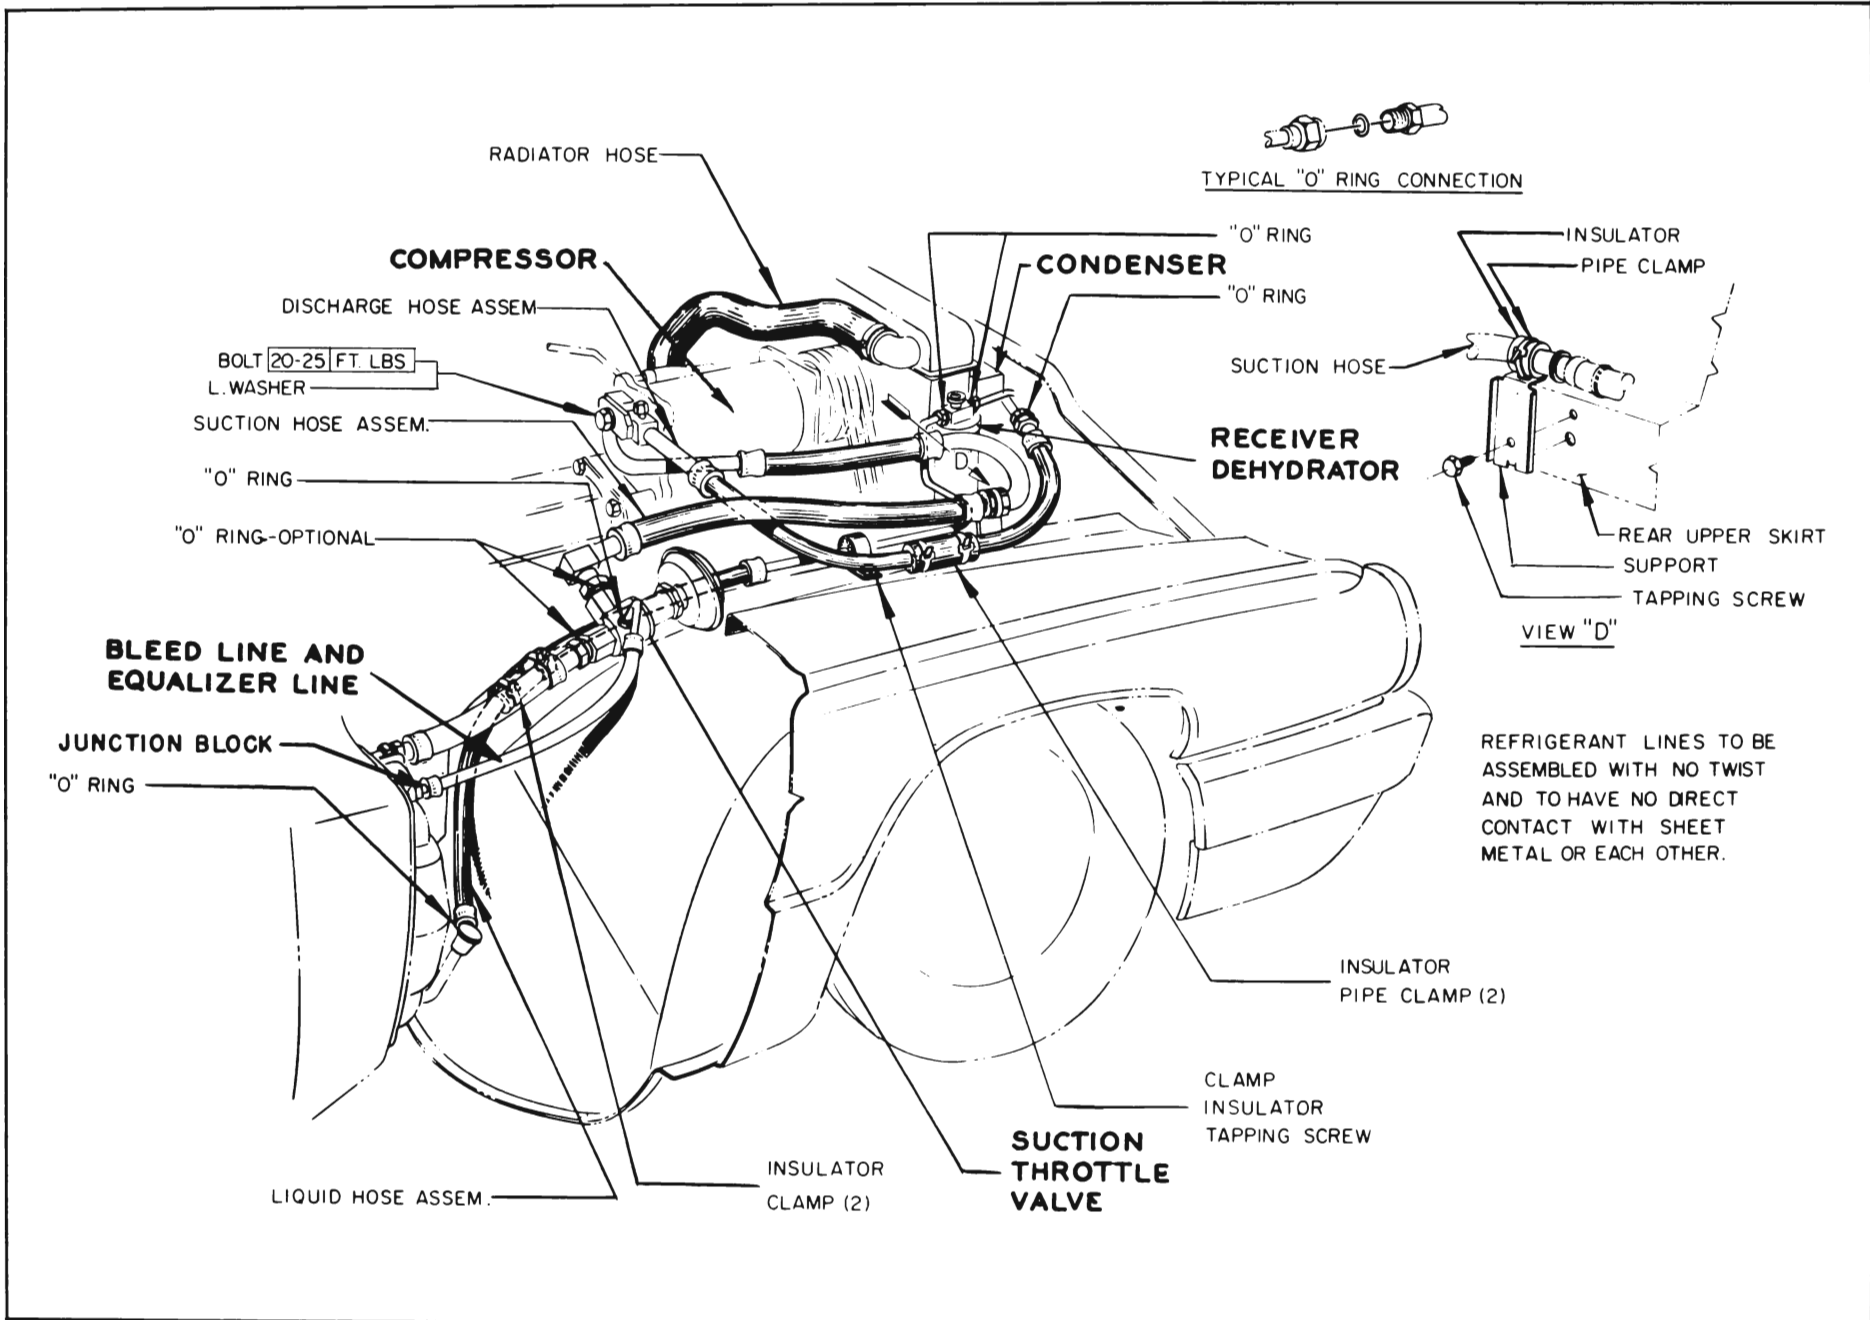

Figure 11-35—Air Conditioner Hose Installation
1. Hoses. The connecting elements are made from a high temperature, high pressure synthetic rubber hose with double cord reinforcements. The hose ends are fitted with "O" ring fittings. See Figure 11-35.